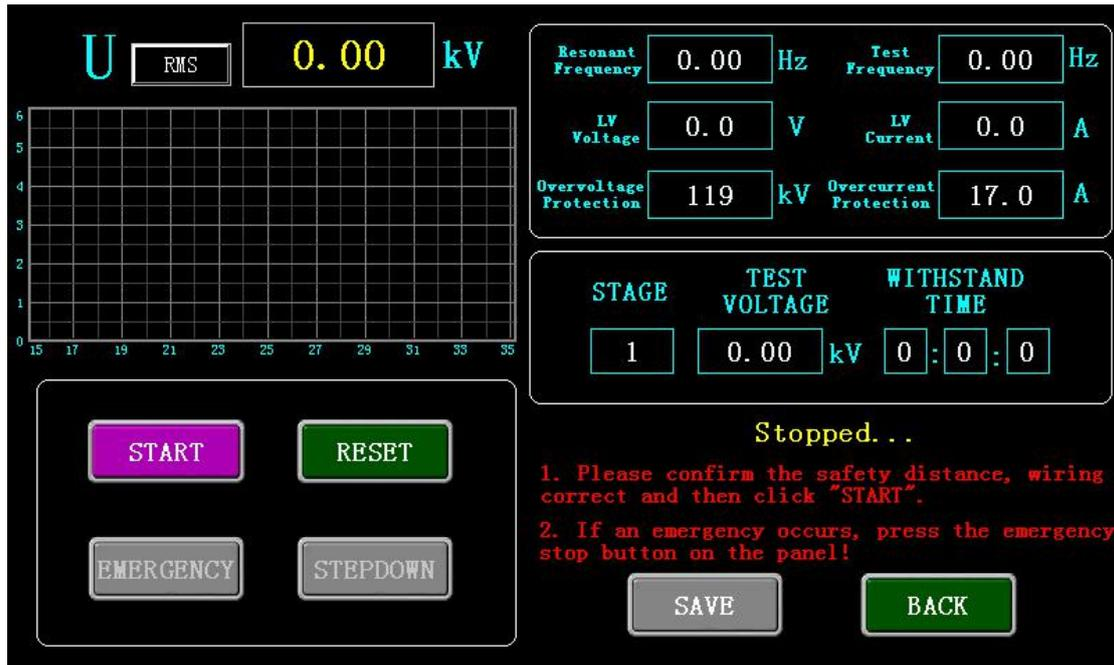

Figure5
- Auto test: when the "parameter settings" is finished, click "auto test" and enter the "auto test" interface, showing the interface as shown in Figure5.